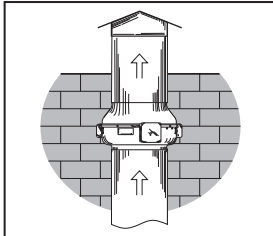

Fig. 5
1. Install an outer hood on the intake flange in case of vertical mounting position, fig. 5.